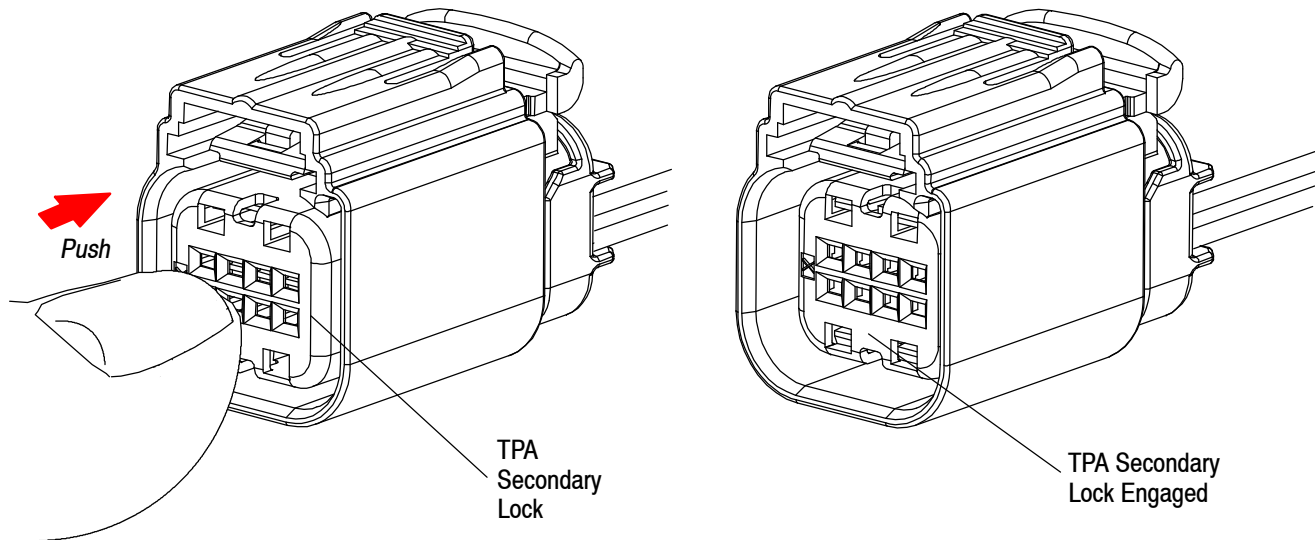

Figure 7
3. When all of the required socket contacts have been inserted, complete the assembly by pushing the TPA into the fully locked position. The TPA may be fully locked by holding the rear of the plug connector assembly and pushing the TPA toward the rear of the connector. See Figure 7.